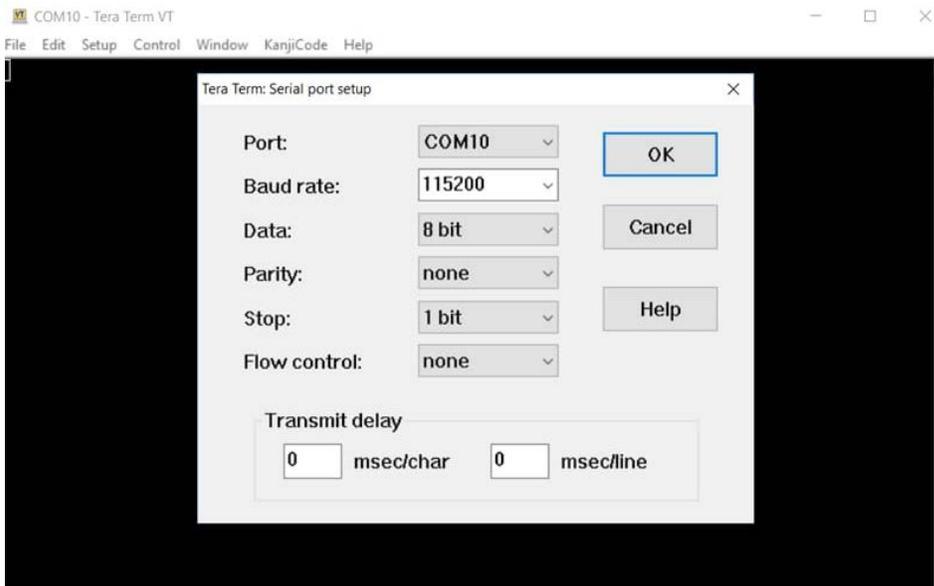

Figure 9. Displays 115200bps baud rate selected in Tera Term.
- Set the baud rate to 115200bps by navigating to **Setup/Serial Port**. This opens a new configuration window. Select 115200 in the **Baud rate** pull-down menu, as shown in Figure 9.